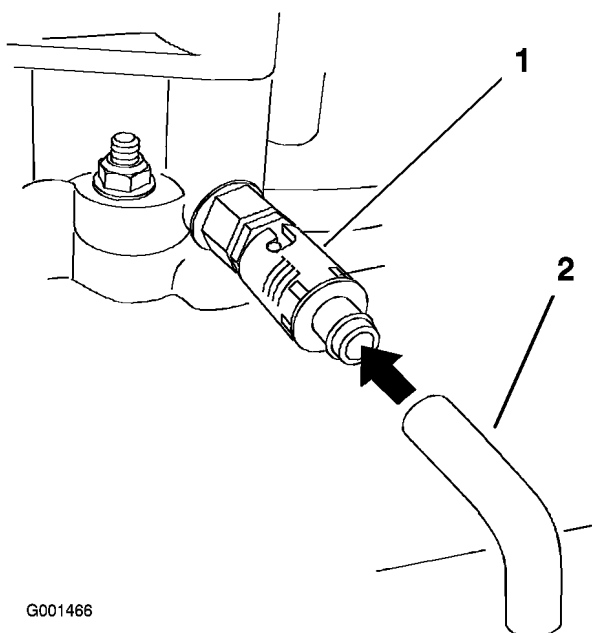

Figure 30
- Place a pan below the drain hose. Rotate oil drain valve to allow oil to drain (Figure 30).
8. Remove the drain hose (Figure 30).